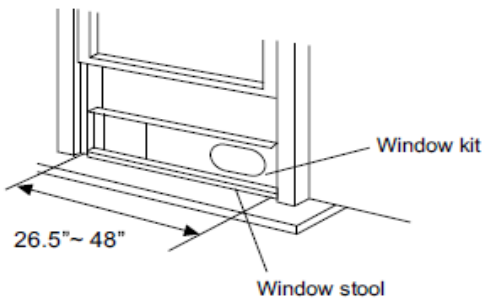

Fig.11
3. Adjust the length of the window bars to the same length and width of the opening of the window. Cut the window piece if necessary to fit the length of your window. Fig. 11.